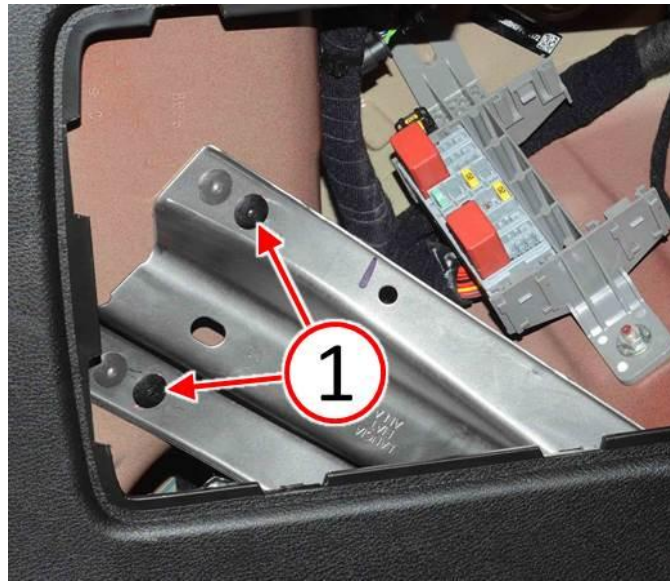

Fig. 5 Secure Rivets In Drilled Holes
6. Using a suitable rivet installation tool, secure the four steel rivets (1) into the four drilled holes (Fig. 5).